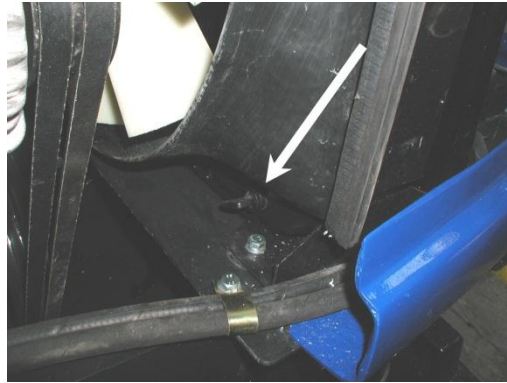

Fig. 5.3.7. Radiator drain tap.
- open the tap (Fig. 5.3.7) at the bottom of the radiator in order to drain the radiator,